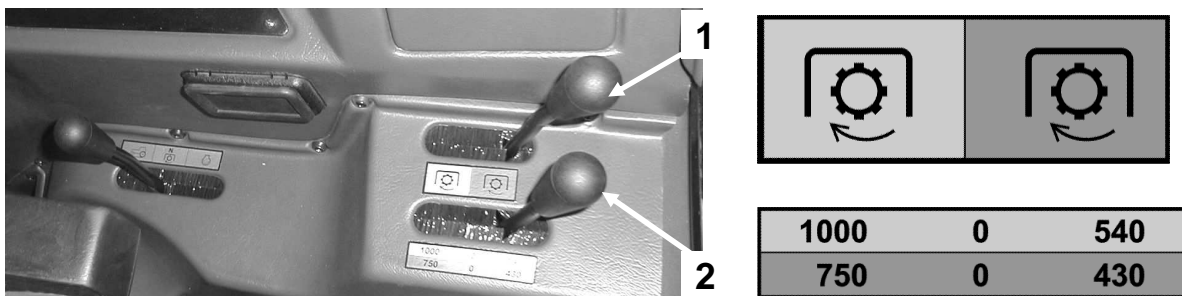

Figure 4-32 Lever connecting appropriate PTO rotation speed: 430 540 750 or 1000 rpm.
- Lever 1 (**Figure 4-32**) to engage appropriate PTO rotation speed range 540/1000 rpm (grey zone in pictogram beside lever) or 430/750 rpm (green zone on pictogram beside lever)
- using lever 2 (**Figure 4-32**) select the required PTO rotation speed from chosen speed range
ATTENTION: Central setting of lever 2 (**Figure 4-32**) is the neutral position. Setting lever in this position disconnects PTO drive.